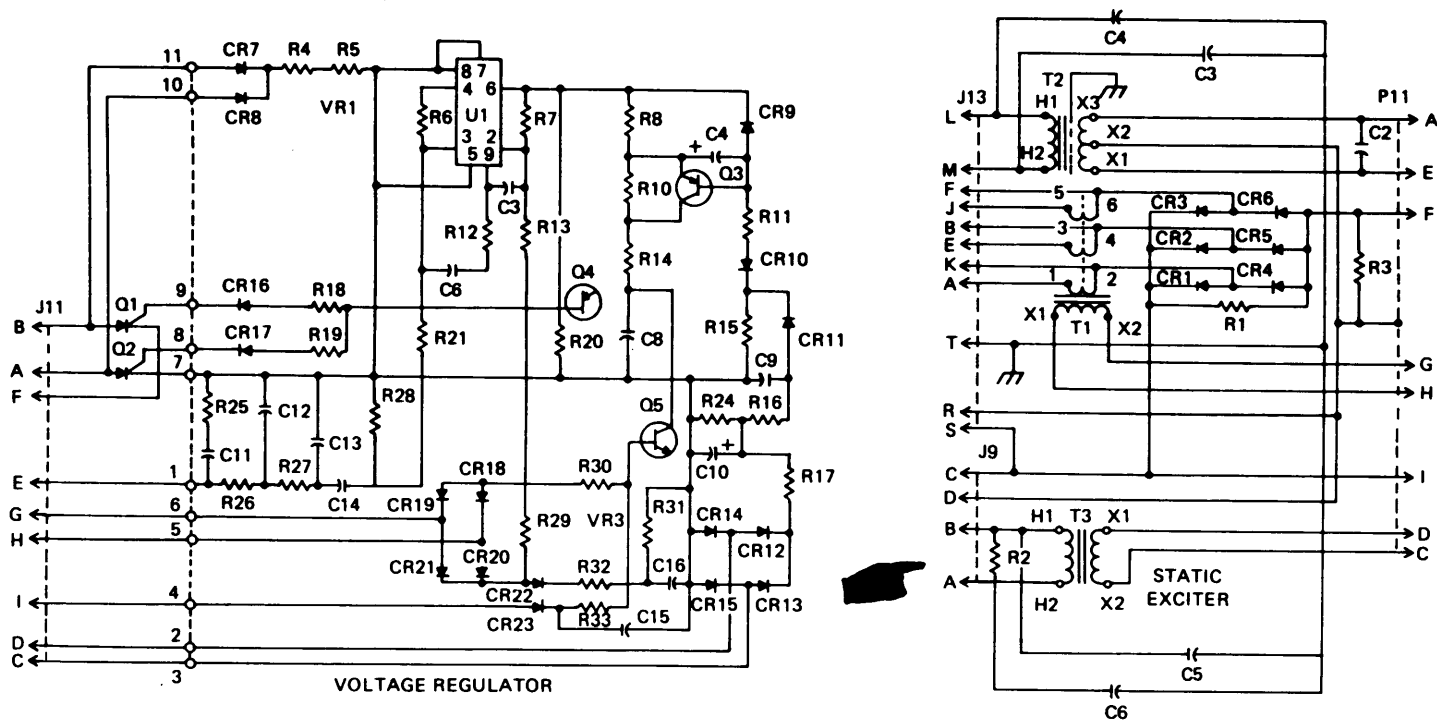

Figure 5-31. 50/60 Hz Static Exciter and Voltage Regulator Schematic Diagram, Drawing No. 72-2629
(5) Inspect terminal board assembly for cracks, burns, and corroded terminals. Replace defective terminal board assembly.
(6) Inspect transformers for cracks, corrosion, and evidence of shorting or overheating. Check continuity of coils using an ohmmeter. There shall be no sign of open circuit.
(7) Replace defective transformers.
(8) Inspect voltage regulator assembly for burned or damaged components.
(9) Electrically check voltage regulator assembly components using figure 5-31 or 5-32 as a guide. Refer to table 5-1 for capacitance and resistance value of components.
(10) If any voltage regulator components must be replaced or encapsulating coating repaired or replaced, refer to Appendix A references for detailed procedures. Repair/replace encapsulation by applying 0.020 inch (rein) coating of polyurethane resin (scotchcast 221, Minnesota Mining and Mfg. Co. or equal).
(11) Inspect wiring harness for damaged connectors and terminals, burns, broken wires, and other damage.
(4) If the requirements of any test are not met, check components using figure 5-31 or 5-32 and table 5-1 as a guide to locate the malfunction. Correct before installing the static exciter and voltage regulator assembly.